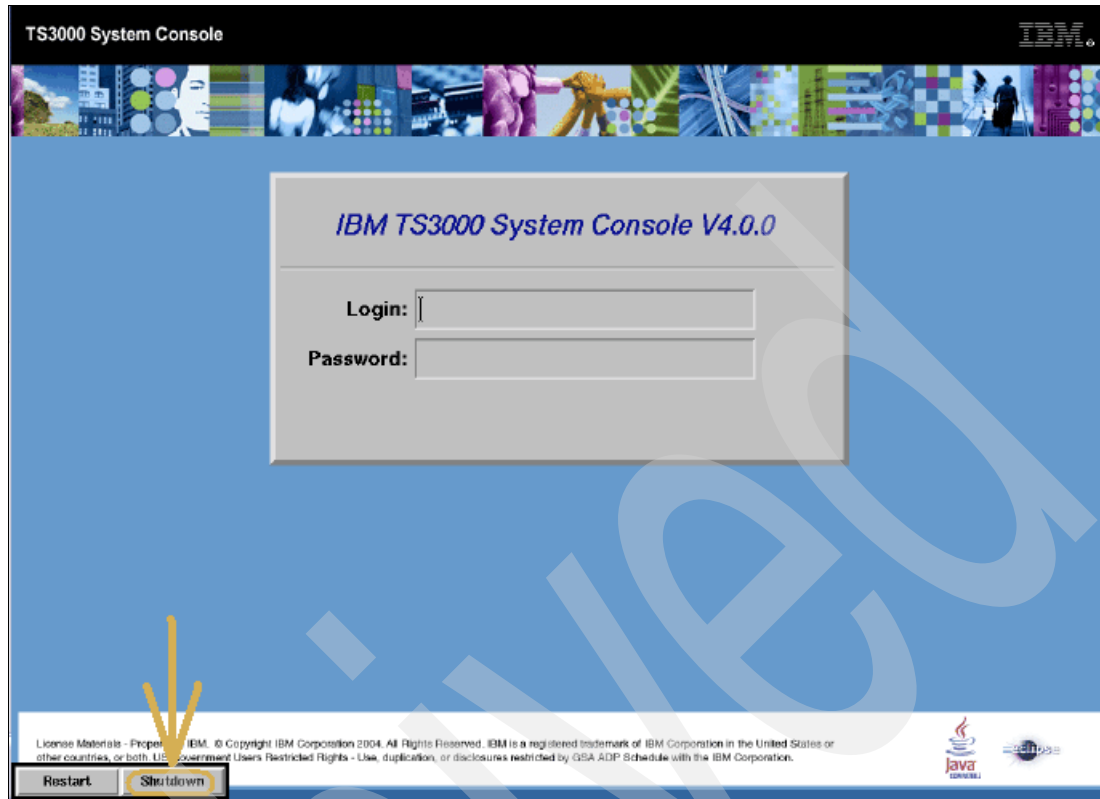

Figure 8-10 TSSC Shutdown
7. At the Login window, select **Shutdown** located at the bottom left portion of the window to begin the shutdown process (see Figure 8-10 on page 179).